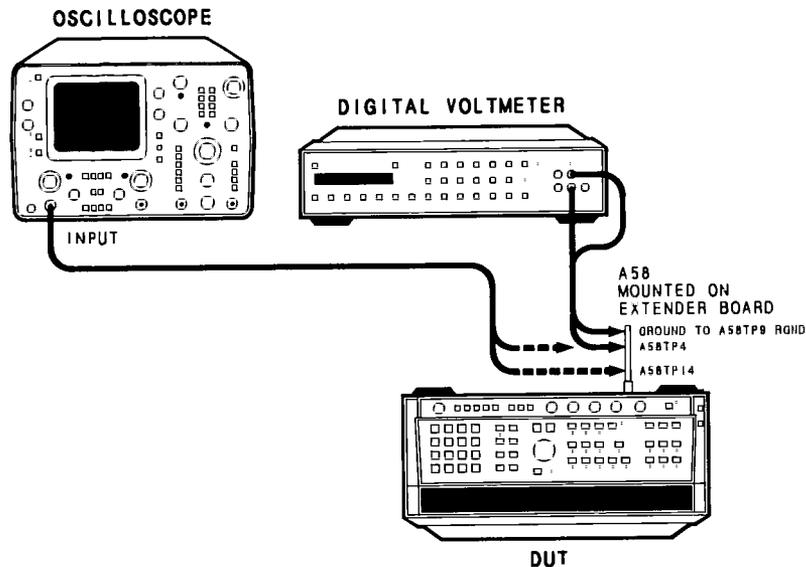

Figure 5-36. Sweep Generator Test Setup
- Place the DUT in the test position as shown in Figure 5-36 with bottom cover removed and the A58 Sweep Generator assembly on an extender board. Connect the oscilloscope to A58TP4 (MKR RMP). Turn the DUT's LINE switch ON and allow one-half hour warm up time.